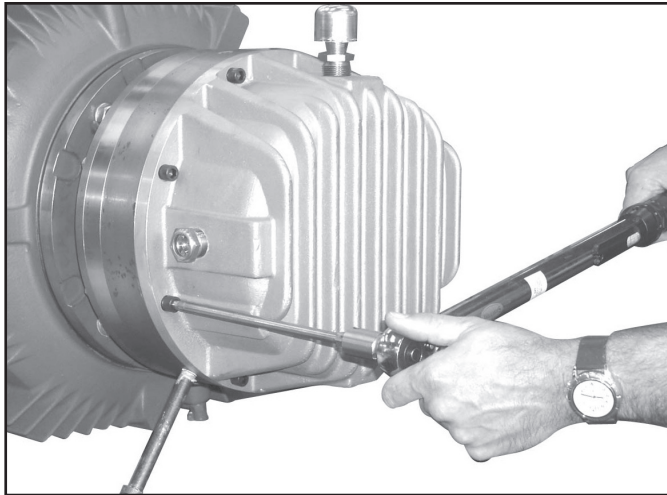

Figure 10 - Attaching End Housing
The Breather (#45) is to be located on the top as shown in *Figure 10*.
Attach the End Housing with (8) Soc. Hd. Cap Screws (#72) and Lockwashers (#128) to a torque reading of **37 lb. ft.** (See *Figure 10*).